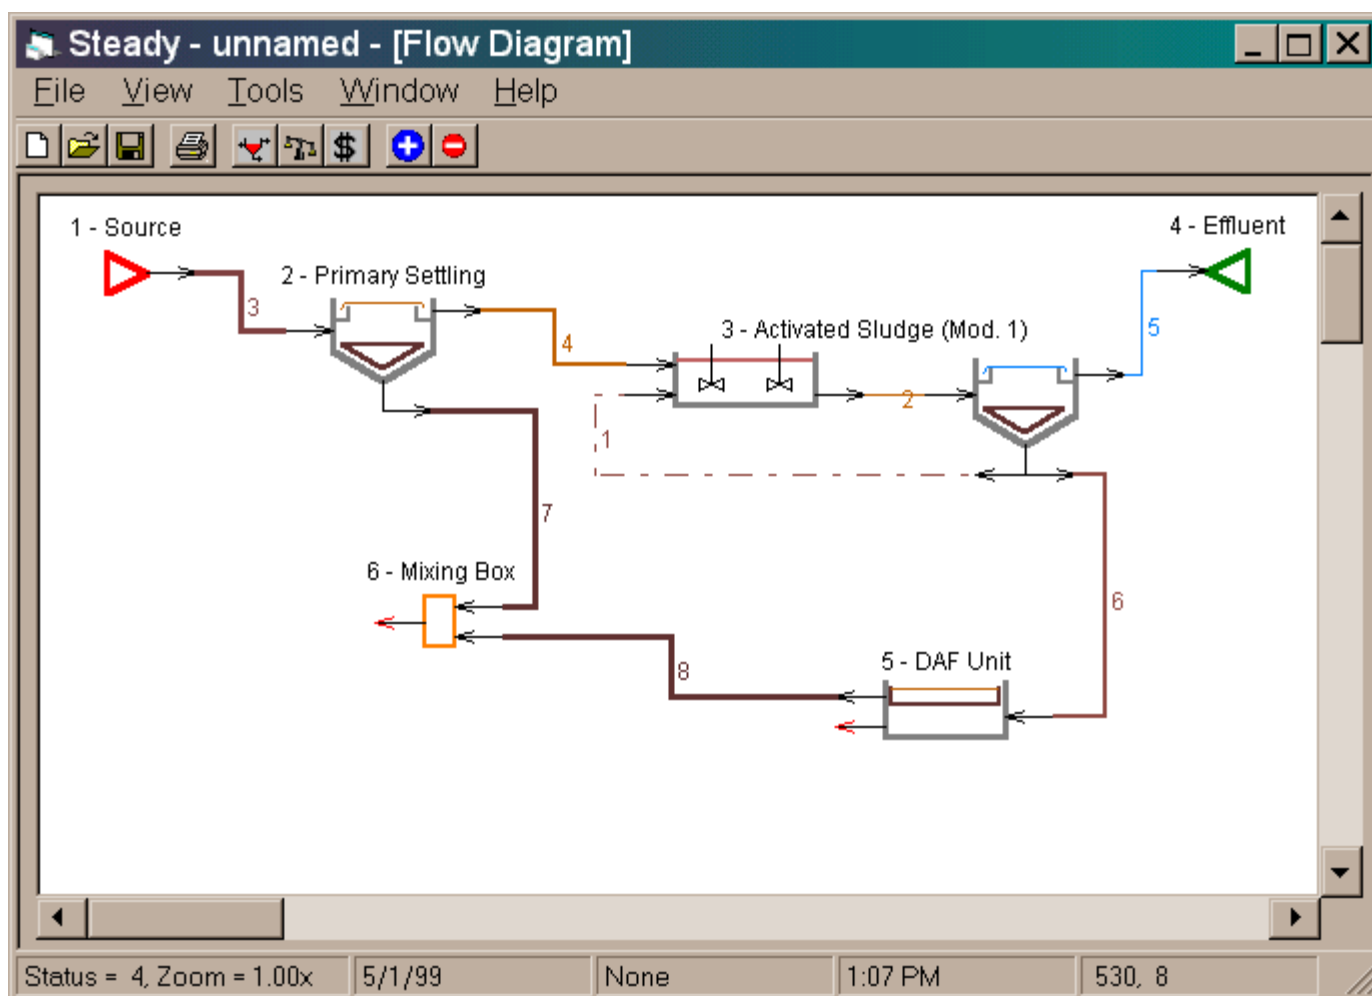

Figure 7 - Combining Primary and Thickened Secondary Sludge
15. Connect the sludge outlet from the Primary Settling Tank to the upper inlet of the Mixing Box and the thickened secondary sludge (overflow from DAF unit) to the lower one. The flow diagram now looks like Figure 7.